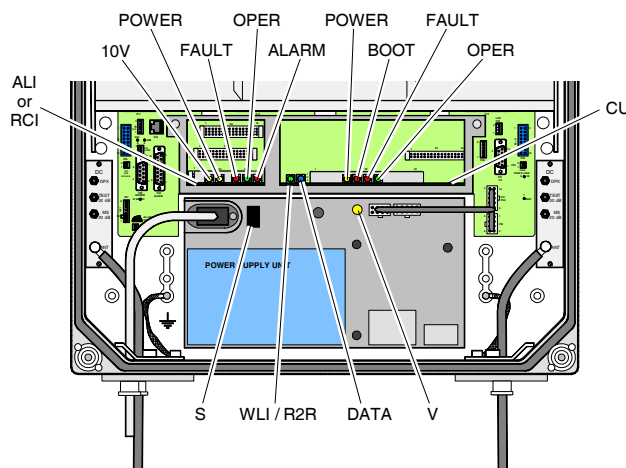

Figure 2-2 Cabinet Internal Indicators
Figure 2-2 shows the LED indicators located on the ALI or RCI, the CU PCBAs, the 115/220V main power switch (S) in the cabinet, and the voltage indicator (V). These indicators are described in further detail in the following sections.